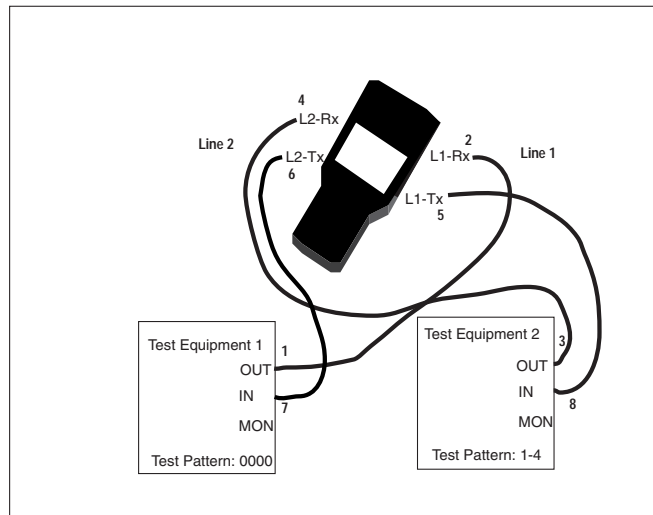

Figure 119 Emulating an Add/Drop Multiplex
- 2) Connect the test set to two terminal equipments in the order shown in Figure 119.
According to Figure 119, you should see the 1-4 pattern. You have just ascertained that Line 2 is being received properly by the SunSet E20.